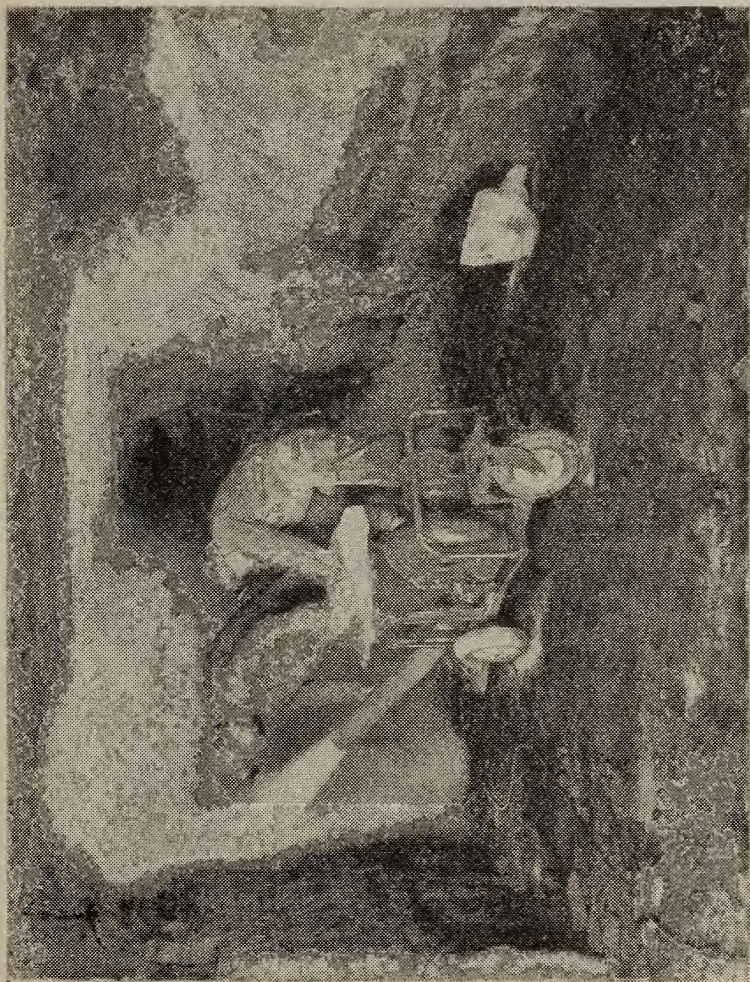

FIGURE 30.—A small, portable rock-dusting machine on rubber-tired wheels has been developed for rock-dusting trackless entries.
A. By sprinkling or other dust-allaying devices. (See figs. 30, 31, 32, and 33.)